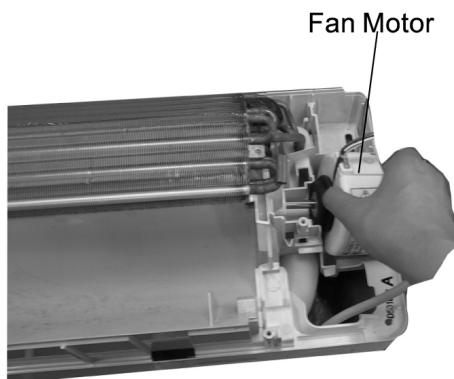

Fig 10
7. Remove the fan motor. **(Fig 10)**